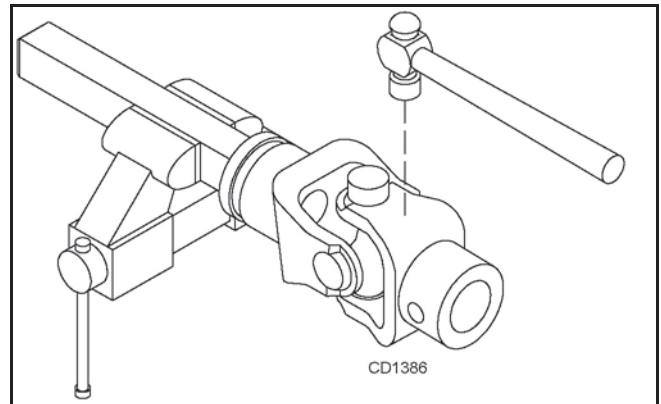

Figure 29. Remove Cups
2. With snap rings removed, support drive in vise, hold yoke in hand and tap on yoke to drive cup up out of yoke. See Figure 29.